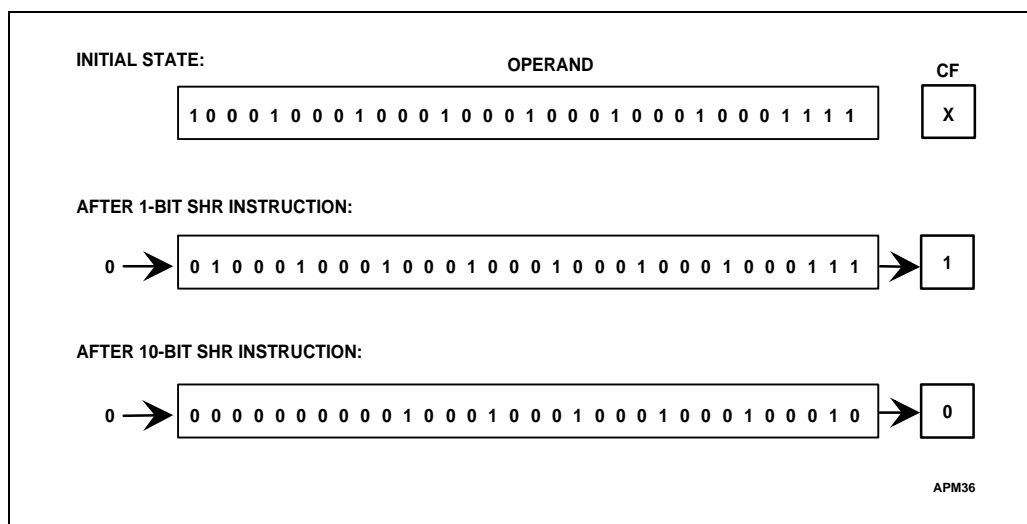

Figure 4-7. SHR Instruction
**SHR (Shift Logical Right)** shifts the destination byte, word, or doubleword operand right by one bit position or by the number of bits specified in the count operand (an immediate value or a value contained in the CL register). Empty bit positions are cleared. See Figure 4-7.